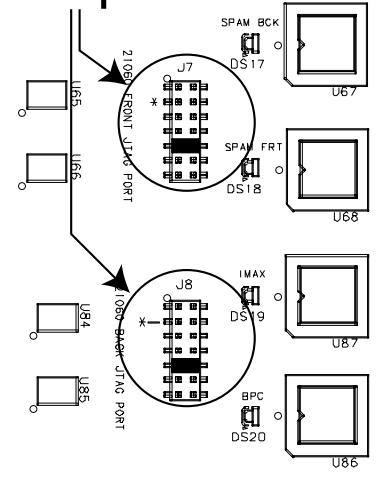

Figure 15 Pegasus IG Jumpers
- 9.) Remove the Pegasus Image Generator circuit board from its static bag, and verify that it has only two (2) jumpers installed. As shown in Figure 15: